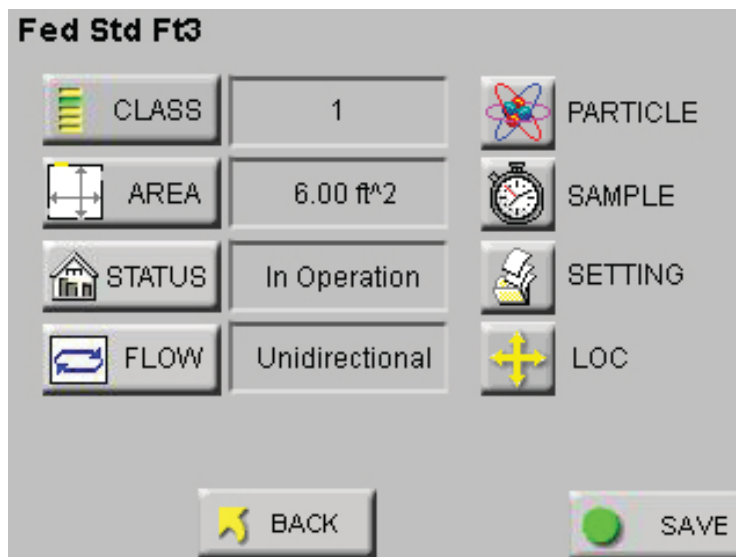

Figure 6-91 Reports Setup Screen
- Select BACK to return to the main REPORTs screen or select SAVE to save the configuration in the Recipe database. See Figure 6-91.